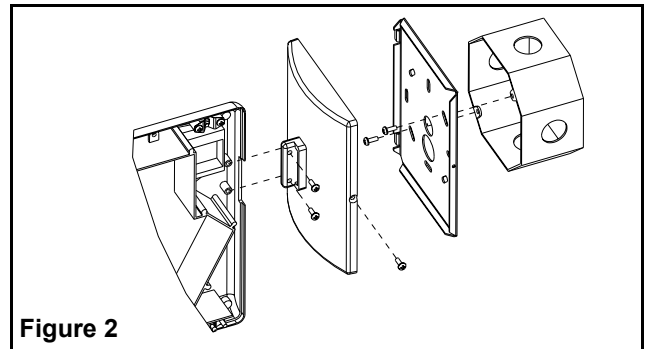

Figure 2
- a. Separate the canopy plate from the canopy assembly and retain the securement screw (see fig. 2).
- ing. Use the canopy screws to fasten the canopy to the housing (see fig. 2).
- h. Mount the exit/canopy assembly to the canopy mounting plate by guiding the two tabs on the canopy plate into the slots in canopy. Use the securement screw to fasten the canopy to the mounting plate (see fig. 2). Go to step 3.